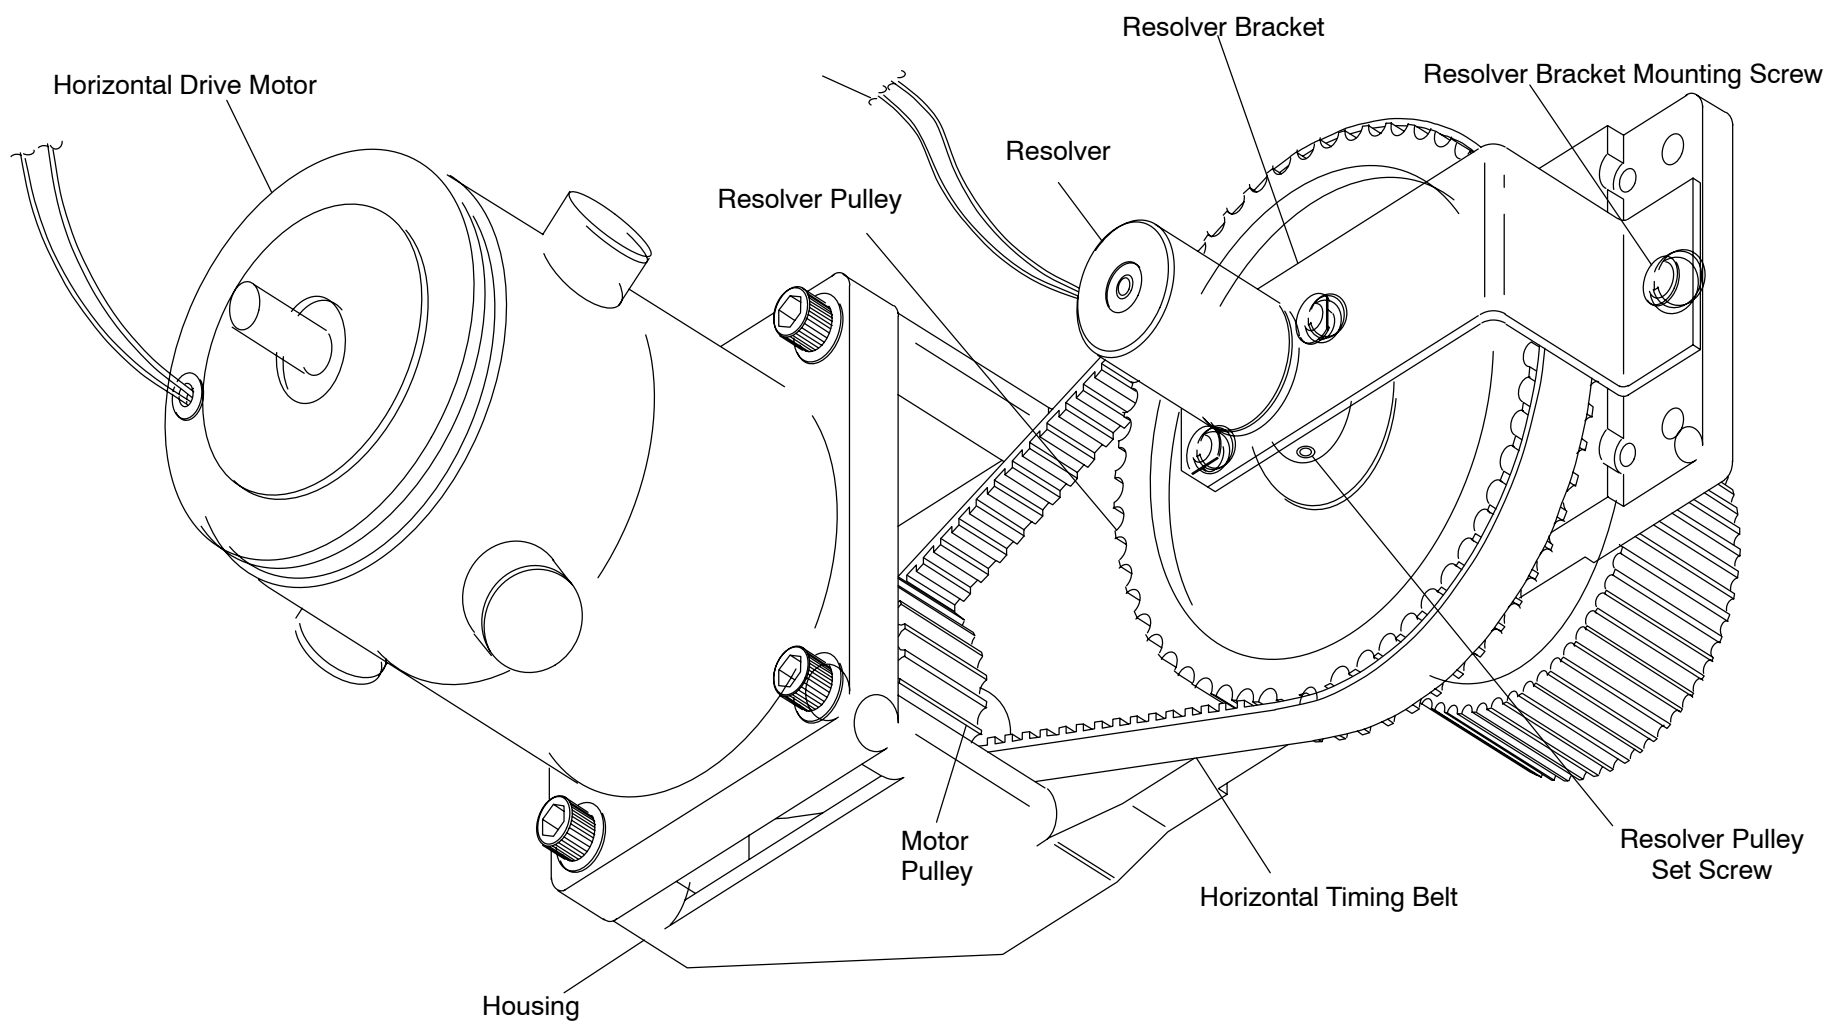

FIGURE 207 Horizontal Drive Assembly
6. Loosen the Resolver Bracket Mounting Screw and remove the Resolver Bracket Assembly from the Horizontal Drive Motor Housing Assembly. Refer to Figure 207.
8. Slide the replacement Timing Belt over the Motor Pulley and onto the Resolver Pulley. Refer to Figure 207.